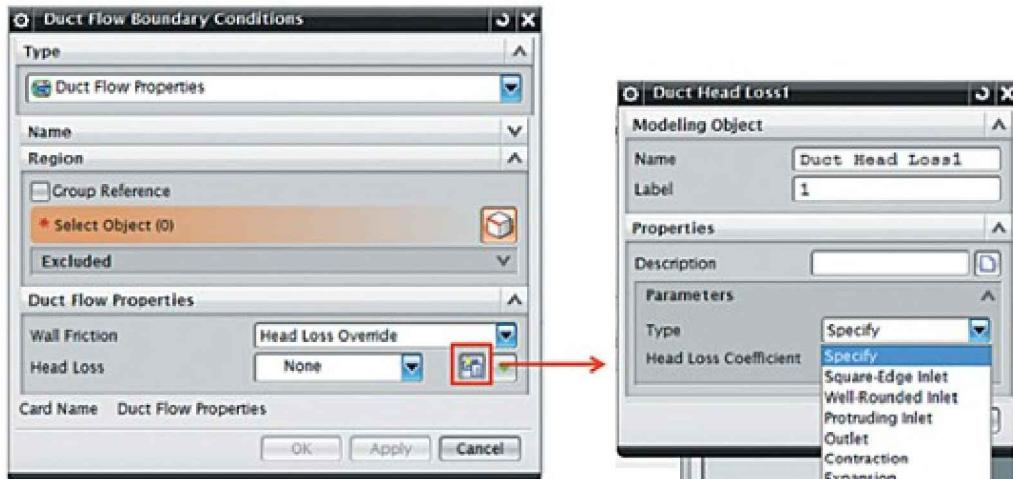

Figure 5.36. Specifying local head losses
1. Select the boundary condition type in the *Duct Flow Boundary Conditions* dialog box (in the *Duct Flow Properties* group). In the *Wall Friction* list, select *Head Loss Override*, as shown in Figure 5.36. Under *Head Loss*, click *Create Modeling Object*.
2. Select one of the methods of specifying losses: *Specify*, *Square-Edge Inlet*, *Well-Rounded Inlet*, *Protruding Inlet*, *Outlet*, *Contraction*, *Expansion* (Figure 5.36). In the latter two cases, the system proposes a template that calculates losses from known parameters of the duct.